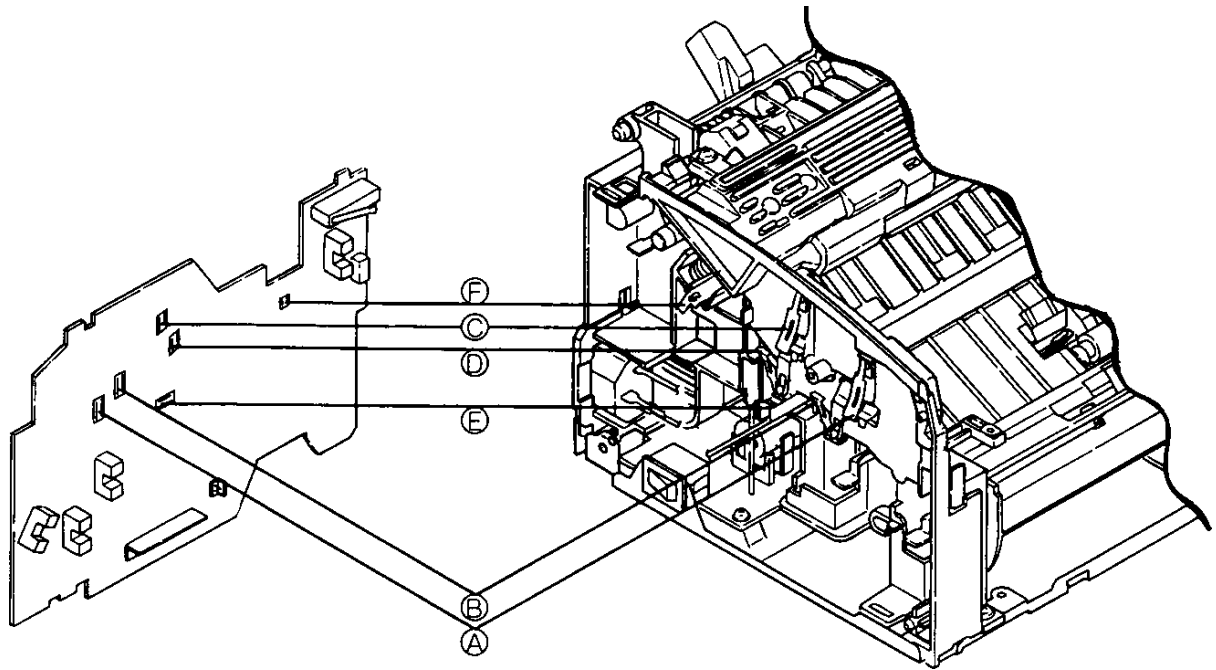

Figure 6-4
⑥ A blank paper is output.
• No Is the terminal of the EP unit in correct contact with the contact plate? (See Figure 6-4 (A) (B) (C) (D) (E) and Figure 6-5 (A) (B) (C) (D) (E).)